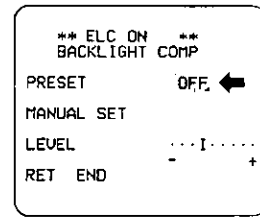

Fig. 59
- The field setup menu is displayed on the monitor screen as shown in Fig. 59.
- After masking is completed, press the Setup Mode Button (SET UP) for more than 2 seconds and the 25 Mask Areas on the monitor screen disappears and the field setup menu shown in Fig. 59 is then displayed.